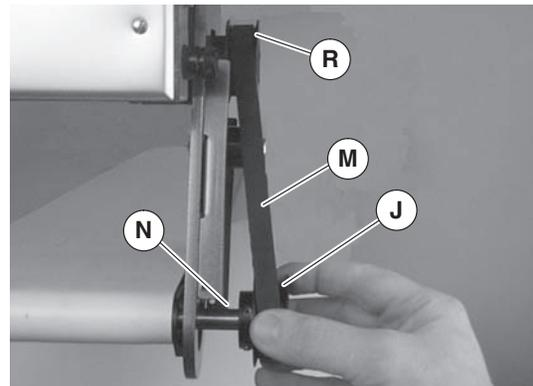

Figure 10
- Install key (Figure 10, item N).